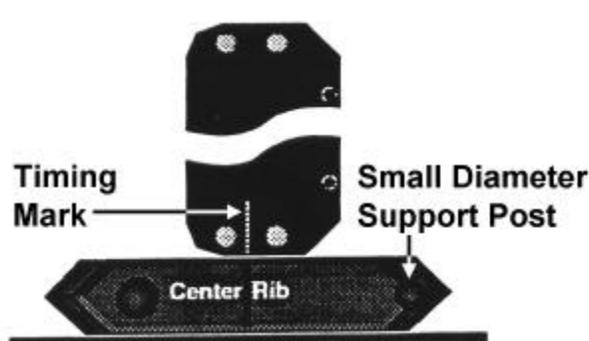

Figure 5-1. Initial Shuttle Position for Shuttle Timing Procedure
1. Orient the case top so that the end of the island with the timing mark cut into it is closest to you, as shown in Figure 5-1.